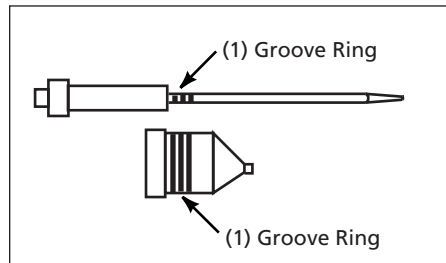

Figure 2 - Thin Material Needle And Nozzle Kit
2. The thin material needle and nozzle have a single groove ring as shown in Figure 2.
6. Install the appropriate needle/nozzle assembly selected for the material to be sprayed (Fig. 2, 3 & 4).